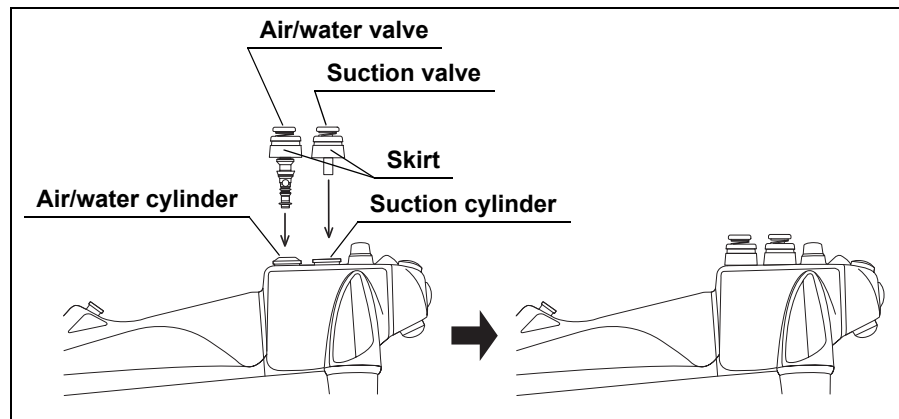

Figure 3.17
1. Attach the air/water valve to the air/water cylinder of the endoscope (see Figure 3.17).